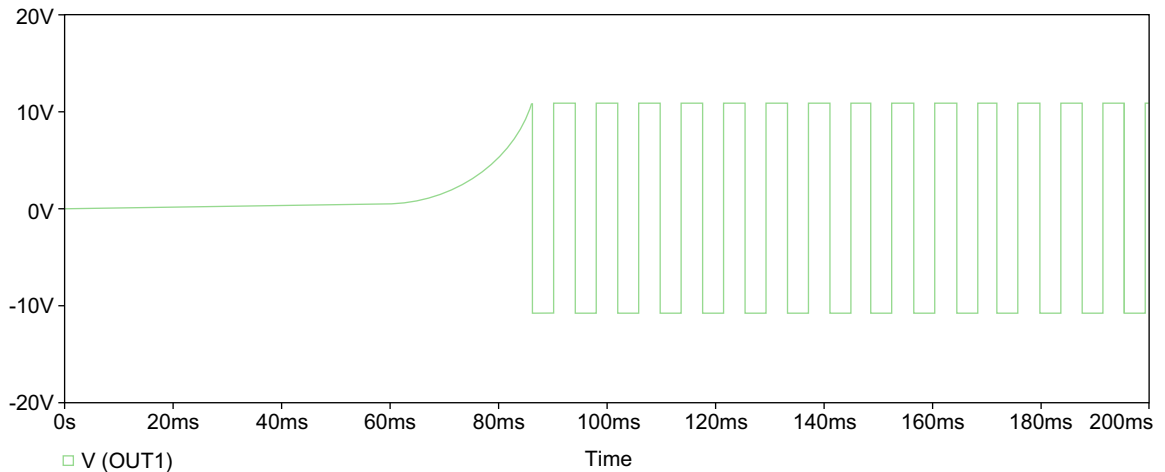

FIGURE 20.33
9. Run the simulation. You should see the oscillator response as in Figure 20.33.